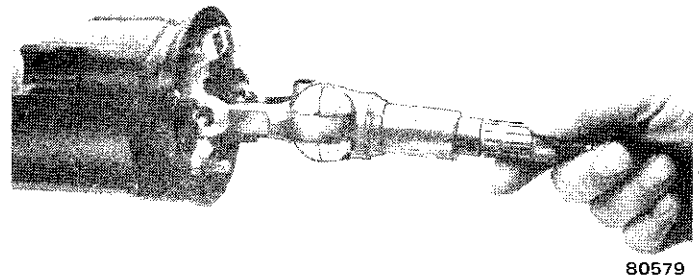

Fig. 2J-58 Steering Shaft Removal/Installation
(30) Remove lock sector spring retaining screw and remove spring (fig. 2J-55). Rotate spring in clockwise direction to remove it from bolt.